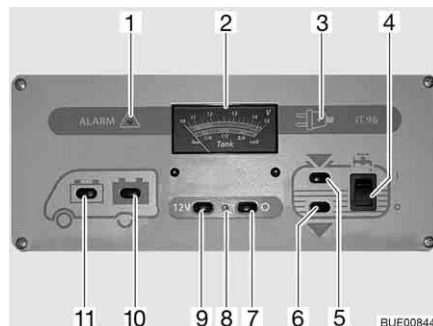

Fig. 167 Panel IT 96-2
The 12 V main switch (Fig. 167,7 and 9) switches the panel and the 12 V power supply to the living area on and off.
- Press switch (Fig. 167,9) "12 V": The 12 V living area power supply is switched on. The indicator lamp (Fig. 167,8) lights up green.
- Press switch (Fig. 167,7) "O": The 12 V living area power supply is switched off. The indicator lamp (Fig. 167,8) goes out.
With the V/tank gauge (Fig. 167,2), note the top scale. The gauge automatically lights up as soon as a switch is pressed.
- Press switch (Fig. 167,11) "🔌": The battery voltage of the starter battery is displayed.
- Press switch (Fig. 167,10) "🔌": The battery voltage of the living area battery is displayed.
The V/tank gauge is for the indication of the quantity of water or waste water. With the V/tank gauge (Fig. 167,2), use the bottom scale. The gauge automatically lights up as soon as a switch is pressed.
- Press switch (Fig. 167,5) : The volume of water is displayed.
- Press switch (Fig. 167,6) : The volume of waste water is displayed.
Switching on: ■ Press the upper part of the rocker switch (Fig. 167,4) "I": The water supply is ON.
Switching off: ■ Press the lower part of the rocker switch (Fig. 167,4) "O": The water supply is OFF.
The red "ALARM" warning light (Fig. 167,1) flashes as soon as the voltage of the living area battery falls below 11 V (measured under operation) and there is a risk of a total discharge.
The 12 V indicator lamp (Fig. 167,8) illuminates whenever the 12 V main switch (Fig. 167,9) is switched on.
The yellow 230 V indicator lamp (Fig. 167,3) illuminates whenever line voltage is available at the transformer/rectifier input.